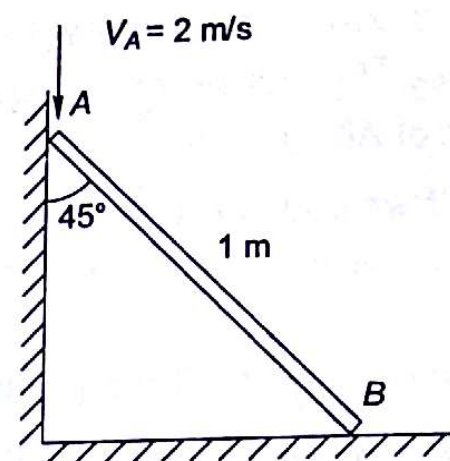

Fig. 12.17
- 12.3 A rod AB , 1 m long is moving along vertical and horizontal planes as shown in Fig. 12.17. End A of rod is moving downwards with a constant velocity of 2 m/s. Choose B as a reference point, express the given motion as equivalent to a translation with A and simultaneous rotation about B .